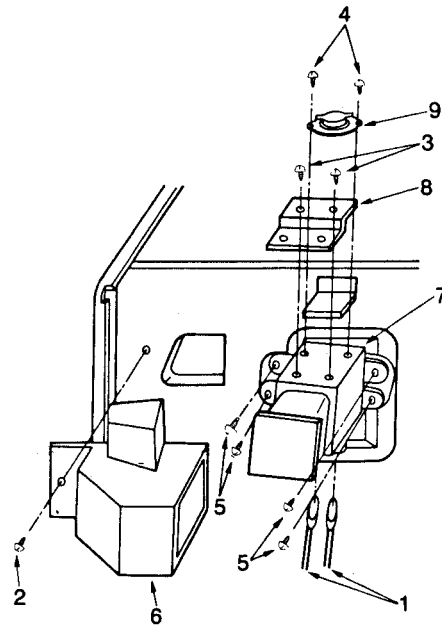

Fig. 20
- 2) Remove four screws ⑥ holding back plate C ⑤ to the panel control ①.
- 3) Disconnect connector (T5) from the DMP-881C board assembly ⑦.
- 4) Remove two screw ⑧.
- 5) Remove the board assembly ⑦ from the back plate C. ⑤.
7. Magnetron Assembly Removal (Refer to Fig. 20)